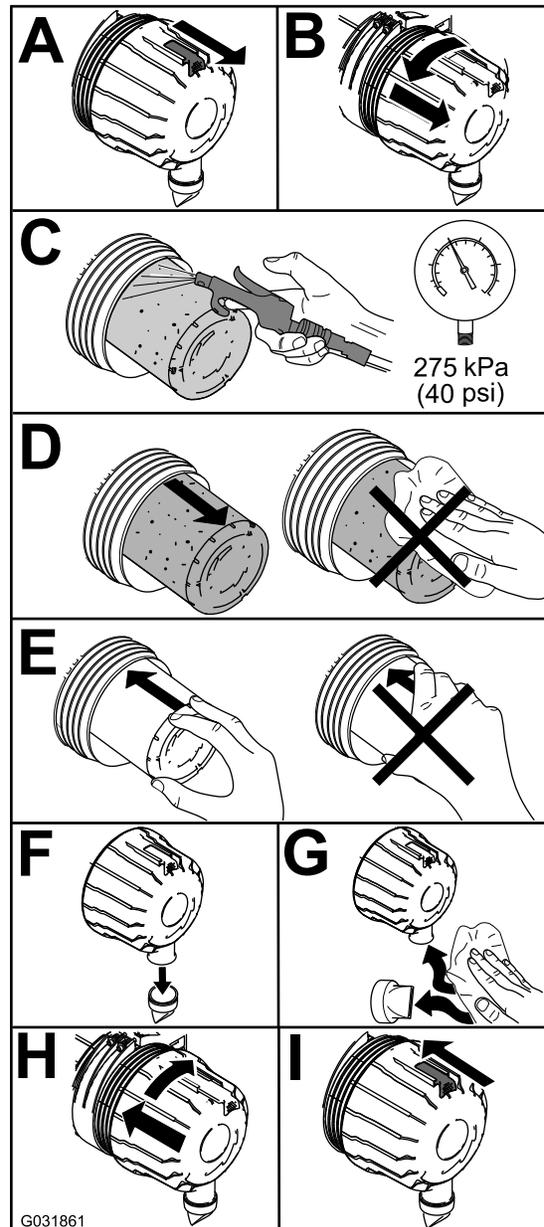

Figure 45
1. Replace the primary air-cleaner element (Figure 45).